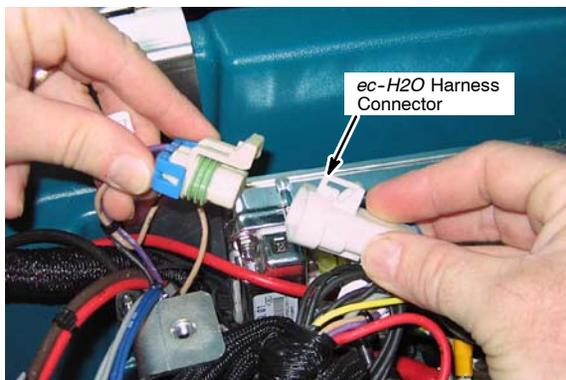

Fig. 7
5. Connect *ec-H2O* harness connector to the open connector located inside the circuit breaker box (Figure 7).